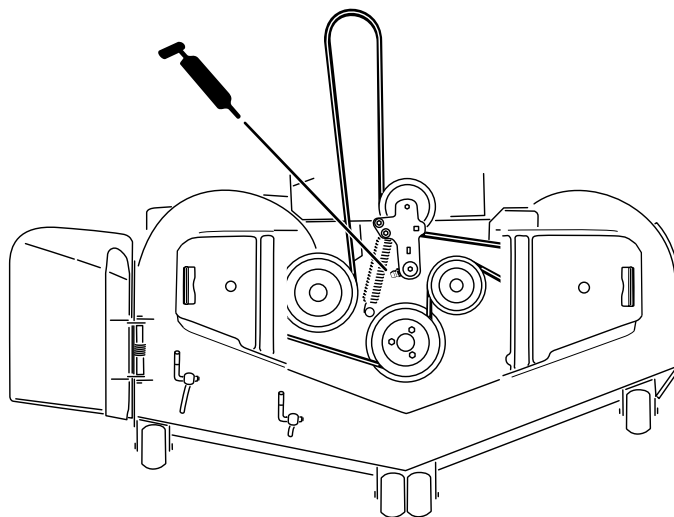

Figure 43
3. Grease the mower deck idler-pulley pivot until grease comes out the bottom (Figure 43).